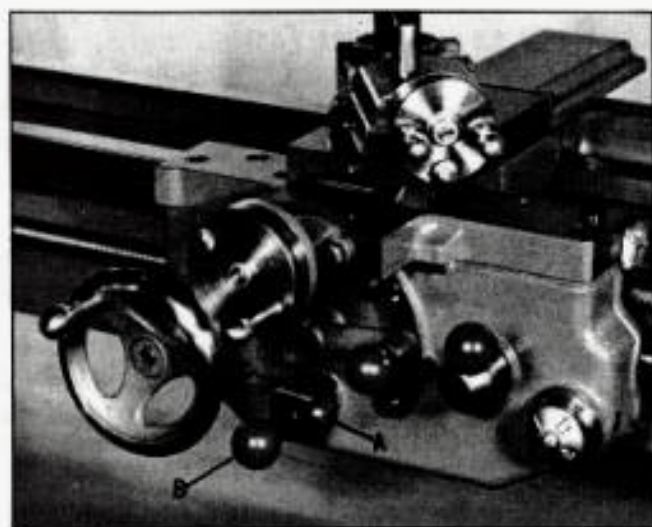

Fig. 28.
Loosen set screw located on left end of shaft (A) Fig. 28, and rotate lever (B) clockwise full turns, not half turns, until proper tension is obtained, and retighten set screw. If, however, this adjustment is too tight and one full turn counterclockwise proves to be too loose, a half turn is necessary. This means that the stop bracket (C) Fig. 28, must be rotated so as to have the stop part on top for proper operation of the clutch lever. To do this, loosen set screw, rotate lever (B) and stop (C) together until disengaged from clutch shaft. Do not lose the relative position of the stop to the lever when disengaged, but carefully rotate the stop (C) 1/2 turn and reassemble to clutch shaft.